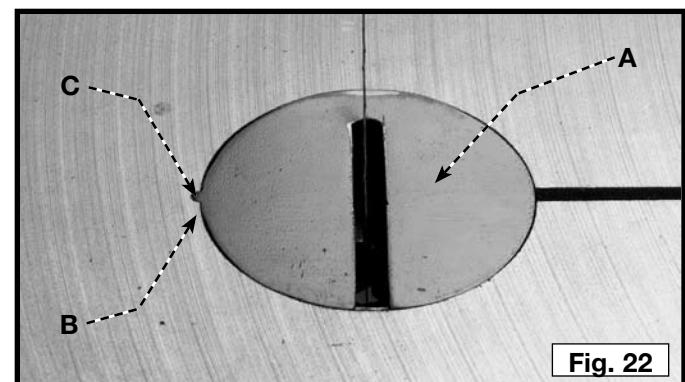

Fig. 22
Place the table insert (A) Fig. 22 in opening of table.